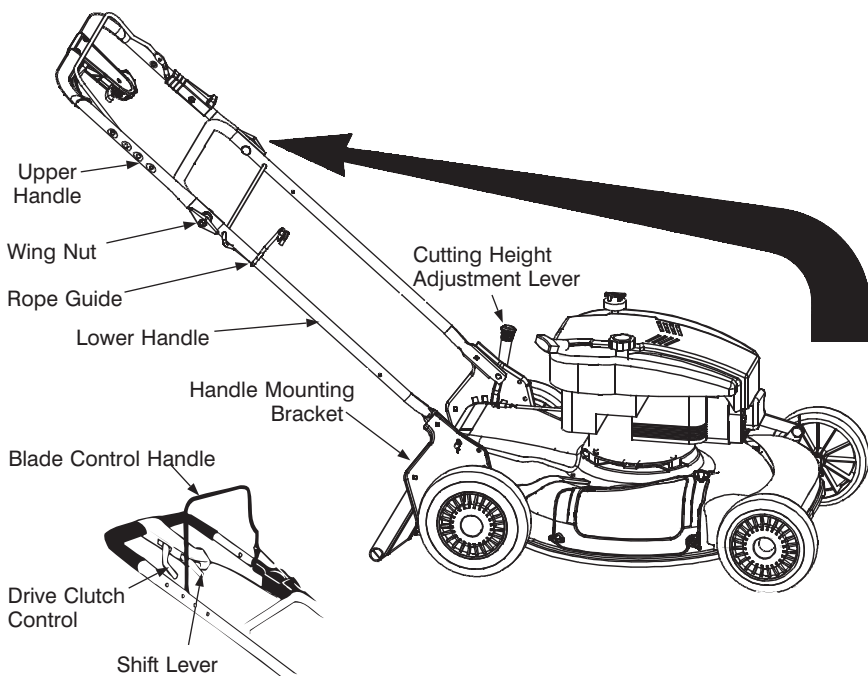
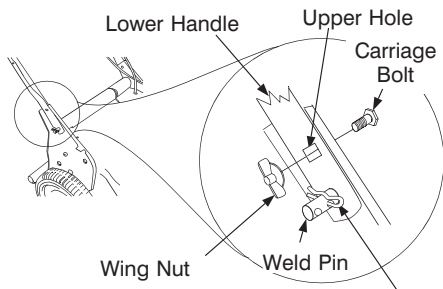

Figure 1
Figure 2
- Pull up and back on the upper handle to raise the handle into the operating position. See Figure 1. Make certain the lower handle is seated securely into the handle mounting brackets. Tighten the wing nuts on each side of the handle. See Figure 2.
brackets. Place the hairpin clips in the inner hole. See Figure 2.
- Place one carriage bolt (found in the hardware pack included with your unit) in the upper hole of the right handle mounting bracket from the inside outward. Secure with one plastic wing nuts. Repeat process on other side. See Figure 2.
The blade control handle is located on the upper handle of the mower. See Figure 1. The blade control handle must be depressed in order to operate the unit. Release the blade control handle to stop the engine and blade.
The shift lever is located on the drive clutch control housing on the upper handle. See Figure 1. This lever is used to select the forward speed of the mower. When changing your speed selection, release the drive clutch control.